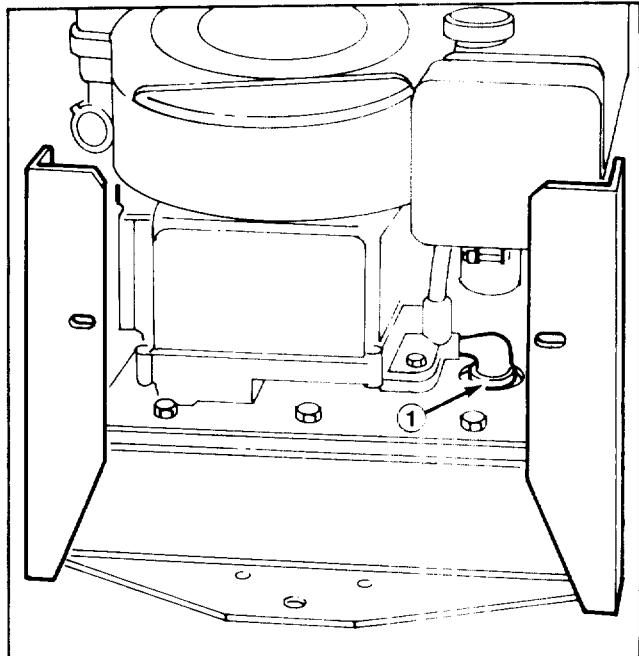

Figure 15
- Turn engine off and place drain pan below drain plug (Fig. 15). Support drain pipe with pipe wrench, remove drain plug, and allow all oil to flow into drain pan. Install drain plug after oil stops flowing.